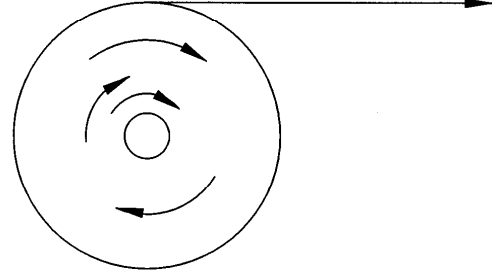

FIGURE 6
- b) Tension too low (figure 6) will cause the roll stock to be wound loose. Layers will slip on each other, making tension control ineffective or intermittent. This will cause the material to neck down (under tension) and expand (when tension is low or nonexistent). These compression and decompression forces will create web wrinkles.